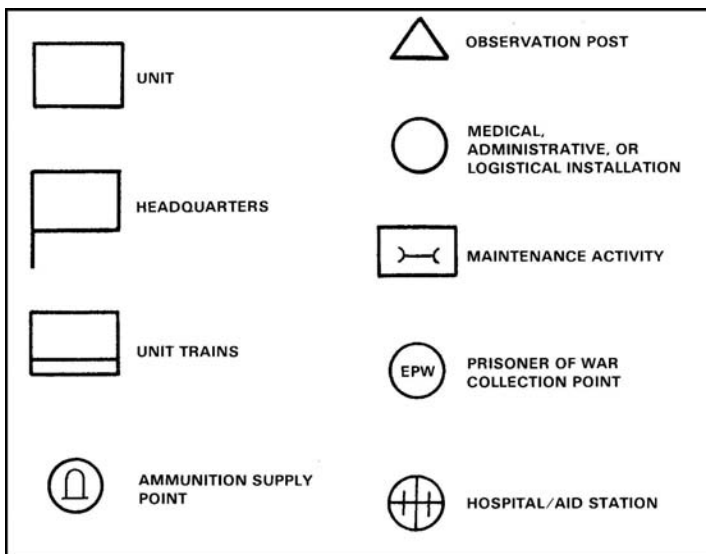

Figure 071-329-1019-2. Basic symbols
- b. Unit symbol (figure 071-329-1019-3).